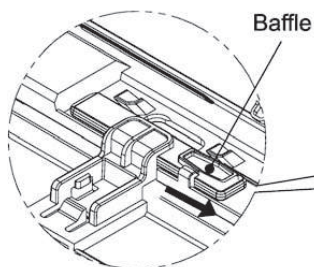

Fig. 22
- 10) Pull the baffles as shown in Fig. 22 . Close the front shell as shown in Fig. 23 . Then press the E position to fasten the front shell as shown in Fig. 24 .